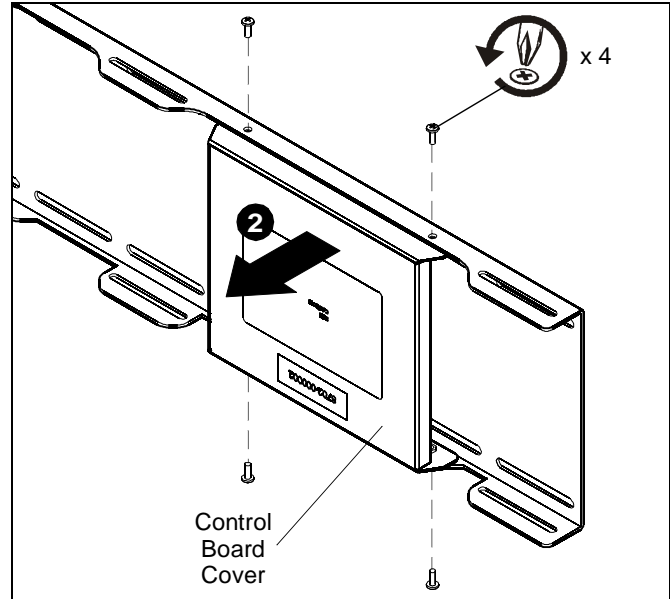

Figure 1
1. Remove and keep the four 10-24 x 1/2" Phillips pan head screws from the control board cover on the wallplate assembly (M). (See Figure 1)
2. Carefully pull cover straight out and away from wallplate assembly. (See Figure 1)